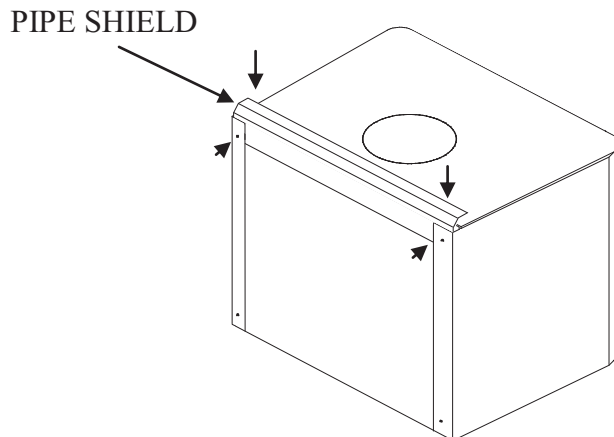

FIGURE 22
3. Insert pipe shield where back shield and top back side shield meets. Tighten screws. (See figure 22).